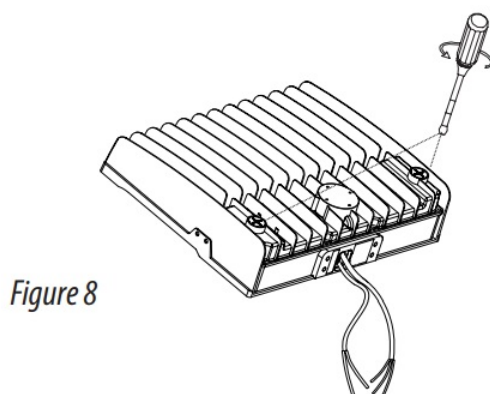

Figure 8
1. Open the metal plug and plastic plug counterclockwise with a screwdriver (figure 8), then slide the switch up and down to adjust the power controller, and CCT selector for your application. (Figure 9)